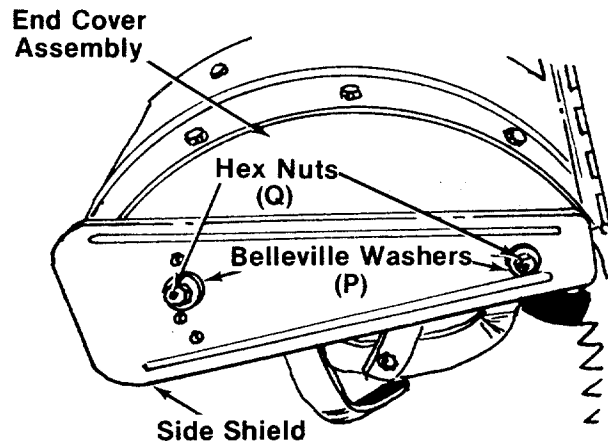

FIGURE 5.
Mount side shields (AB) over the weld bolts on the end cover assemblies. Secure with belleville washers (P) and hex nuts (Q). See figure 5.